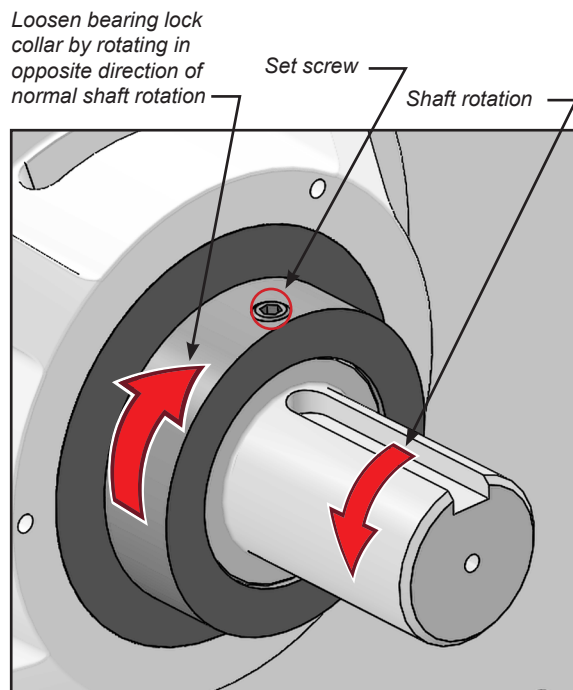

FIGURE 21
5. Loosen bearing lock collar set screw (Figure 21).
6. Disengage bearing lock collar from bearing by turning it using a punch and hammer. Loosen by rotating the collar in the direction opposite of normal shaft rotation (Figure 21).
29. Lock bearing in place by locking eccentric lock collar in direction of rotation and tighten set screw (Figure 21).